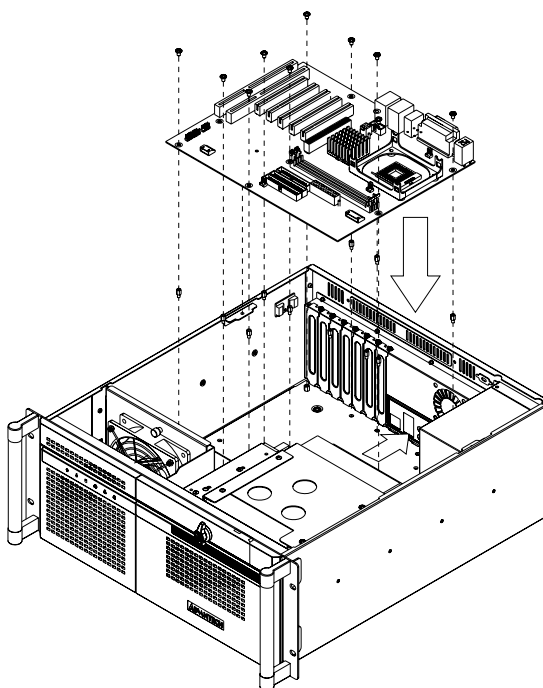

Figure 2.3 Installing a motherboard
- While installing a MOTHERBOARD, attach the motherboard I/O shield onto the rear plate first. Then fasten the motherboard onto the chassis. (see Figure 2.3)